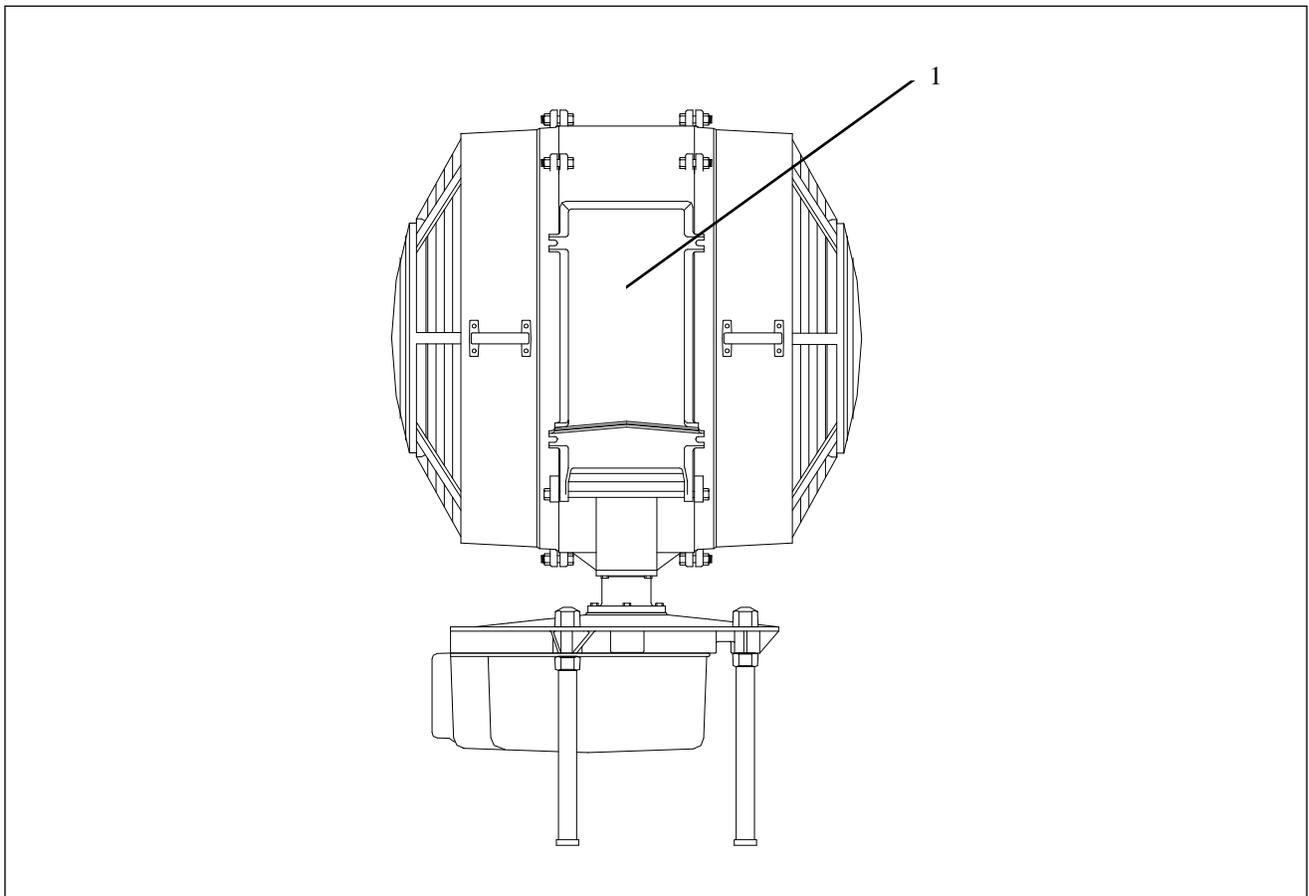

Figure 10. Optical Head Access Door (1)
1. See Figure 10. Open the optical head access door (1) located on the opposite side where the ballast is located. Unscrew and remove the lamp from the socket. Place the lamp in safe place to protect it from being broken.